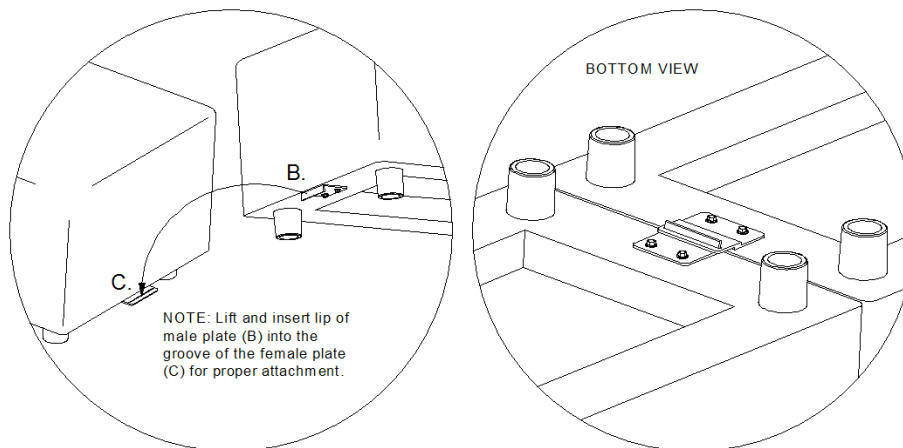

Fig. 1C
**Step. 2** Once all of the units have the needed ganging plates attached, return the units to their upright position. Lift the unit with the Male Ganging Plate(s) and carefully drop the lip of the male plate into the exposed groove of the Female Ganging Plate that is extended out from the bottom edge of the mating unit as illustrated in Fig. 1C. The ganging plates interlock as shown in the 'Bottom View' drawing of Fig. 1C.